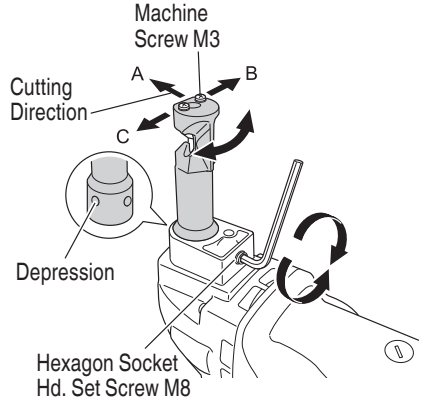

Fig. 8
- (1) The cutting direction of this machine can be rotated in 90° increments in 3 directions (A, B and C) (see Fig. 8) by loosening the M8 hexagon socket set screw mounting the die holder. Set the cutting direction in the B or C direction to cut trapezoidal plates. After that, securely tighten the M8 hexagon socket set screw.
(1) Punch replacement
- (a) Loosen the M8 hexagon socket set screw mounting the die holder (see Fig. 8) and remove the die holder.